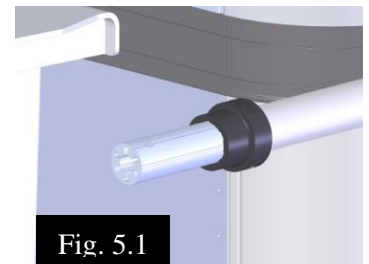

Fig. 5.1
1. Locate the adapter extrusion with the pre-installed polymer bushing. Refer to figure 5.1.